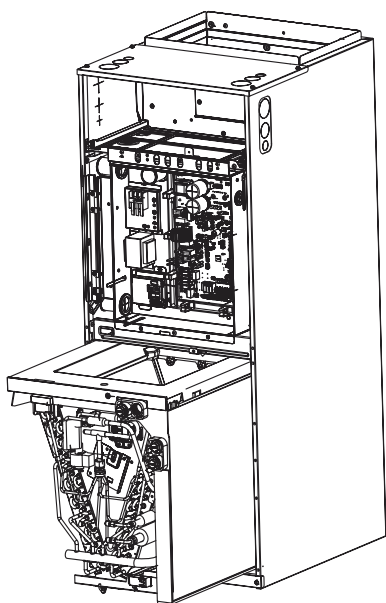

Fig. 10
(9) Rotate the evaporator for 180° and insert into the upper side of the lead rail. Pay attention to protecting the wires during the process. (Refer to Fig.10)